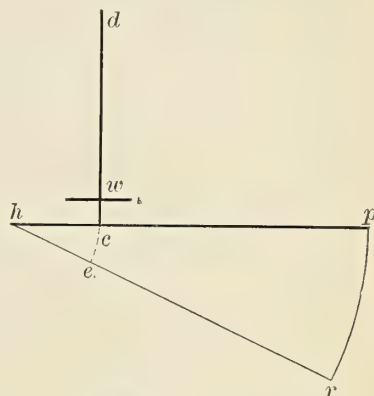

FIG. 20.
If the arm  $hp$  is pivoted about a point as in Fig. 20 the arm  $cd$  at any instant will have two motions: (1) it will be drawn endwise through the wheel, and (2) it will swing around just as fast as the arm  $hp$  does; the first action affects the reading on the scale, and the sec-